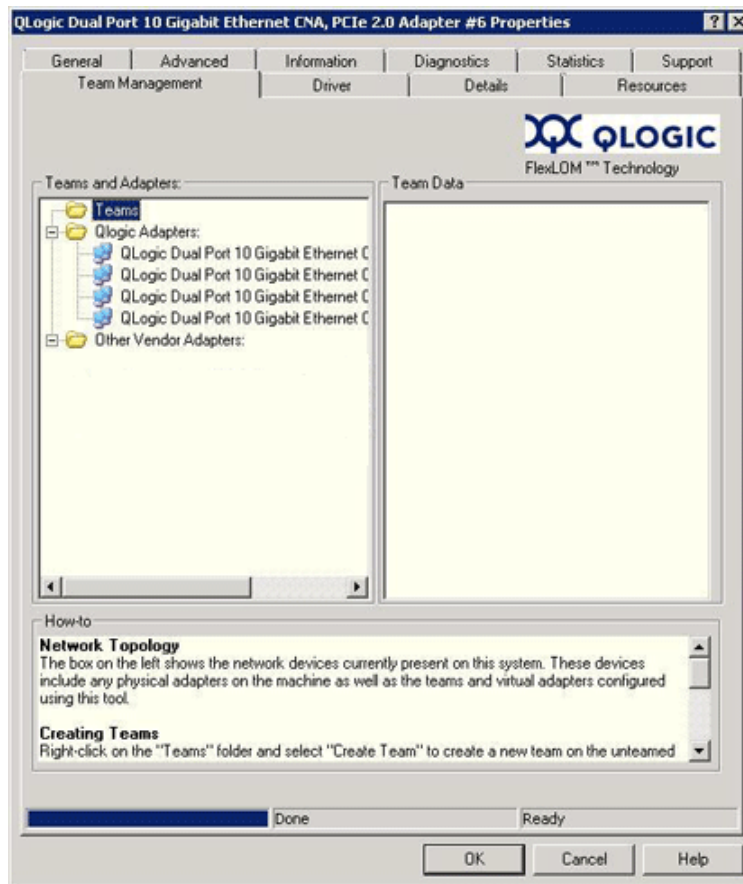

Figure 7: Team Management Property Page
3. Click the **Team Management** tab to bring that page to the front (Figure 7) and perform teaming-related management.